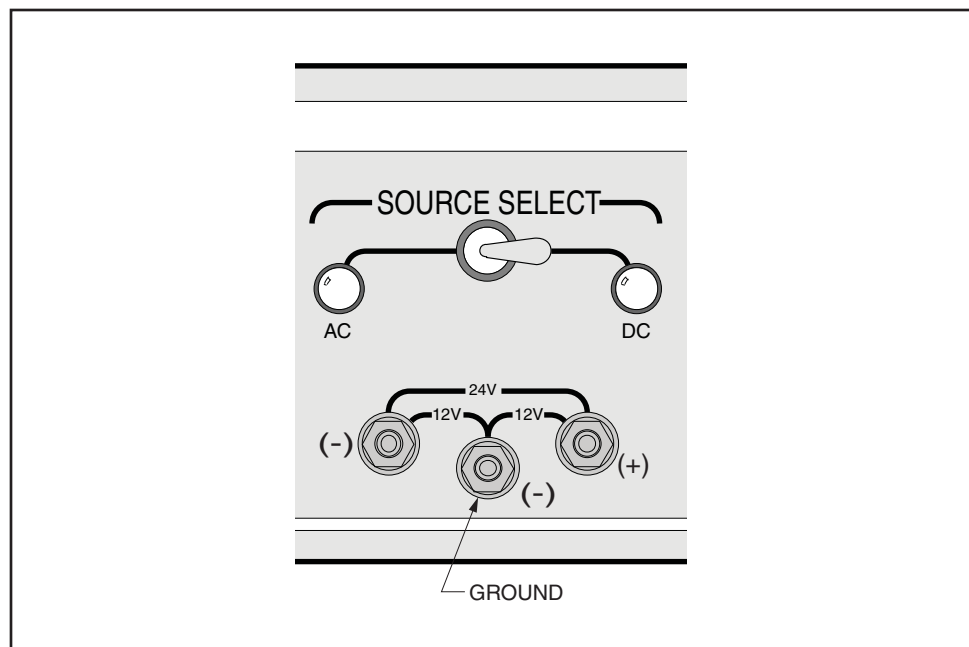

Figure 2-3. Positive, Negative, and Ground Terminals for the DC Supply
If DC is selected, the right-hand terminal is the positive terminal. This will be the point from which the current is pushed through whatever circuit is connected to the power supply. The left-hand terminal is the negative (return) terminal for the positive terminal if 24 volts is needed. The center terminal is the return terminal for the positive terminal if 12 volts is needed. This is shown in figure 2-3.
I. Locate the **Voltmeter Test Lead Terminals**, as identified in figure 2-3.